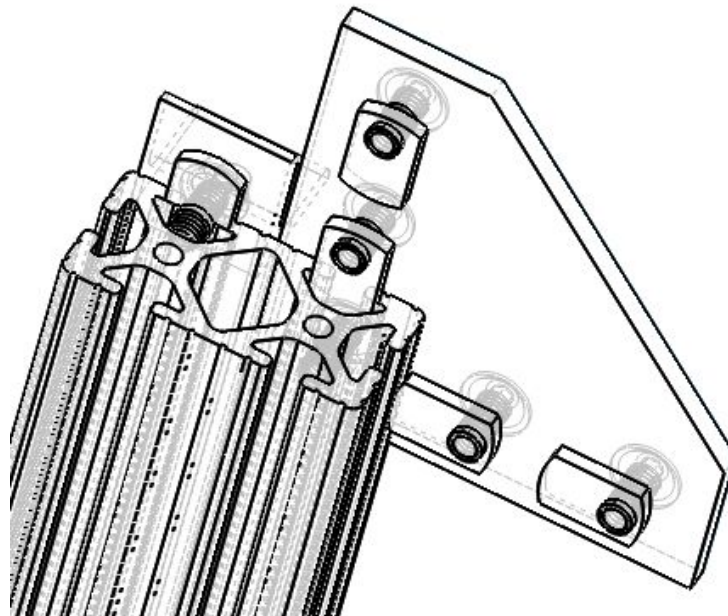

Fig. 3.21: Corner bracket and 5 holes corner bracket on the 1-1/2" x 3" T-slotted frame.
- ❑ In the two groove side insert another 5 holes corner bracket (#XRPJ) in one groove and one corner bracket in the other groove as shown in Fig. 3.21.